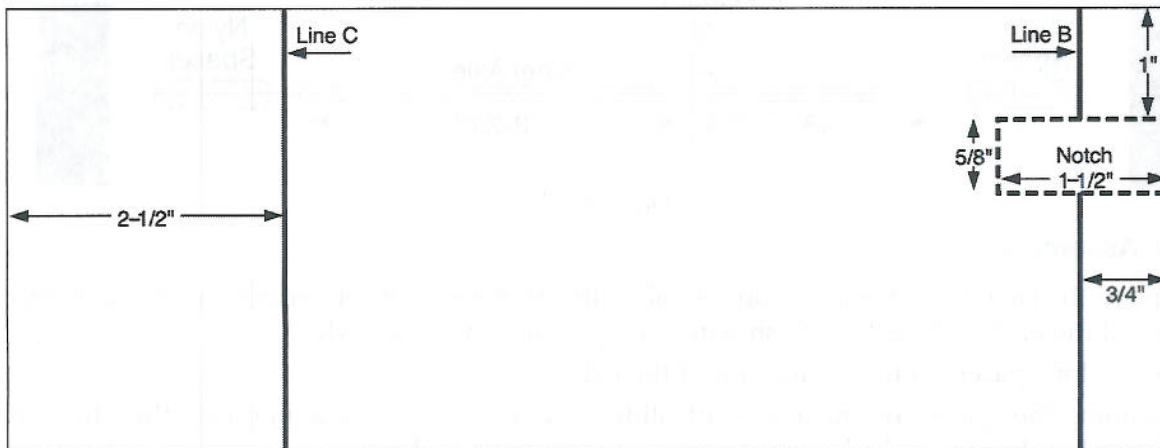

Figure 2
2. Turn over the balsa wood sheet. Draw **Line B** 3/4" from one end of the sheet (Figure 2).
3. At the same end, draw a 5/8" x 1-1/2" notch 1" from the top of the sheet (Figure 2).
4. Draw **Line C** 2-1/2" from the other end of the same sheet of balsa wood (Figure 2).